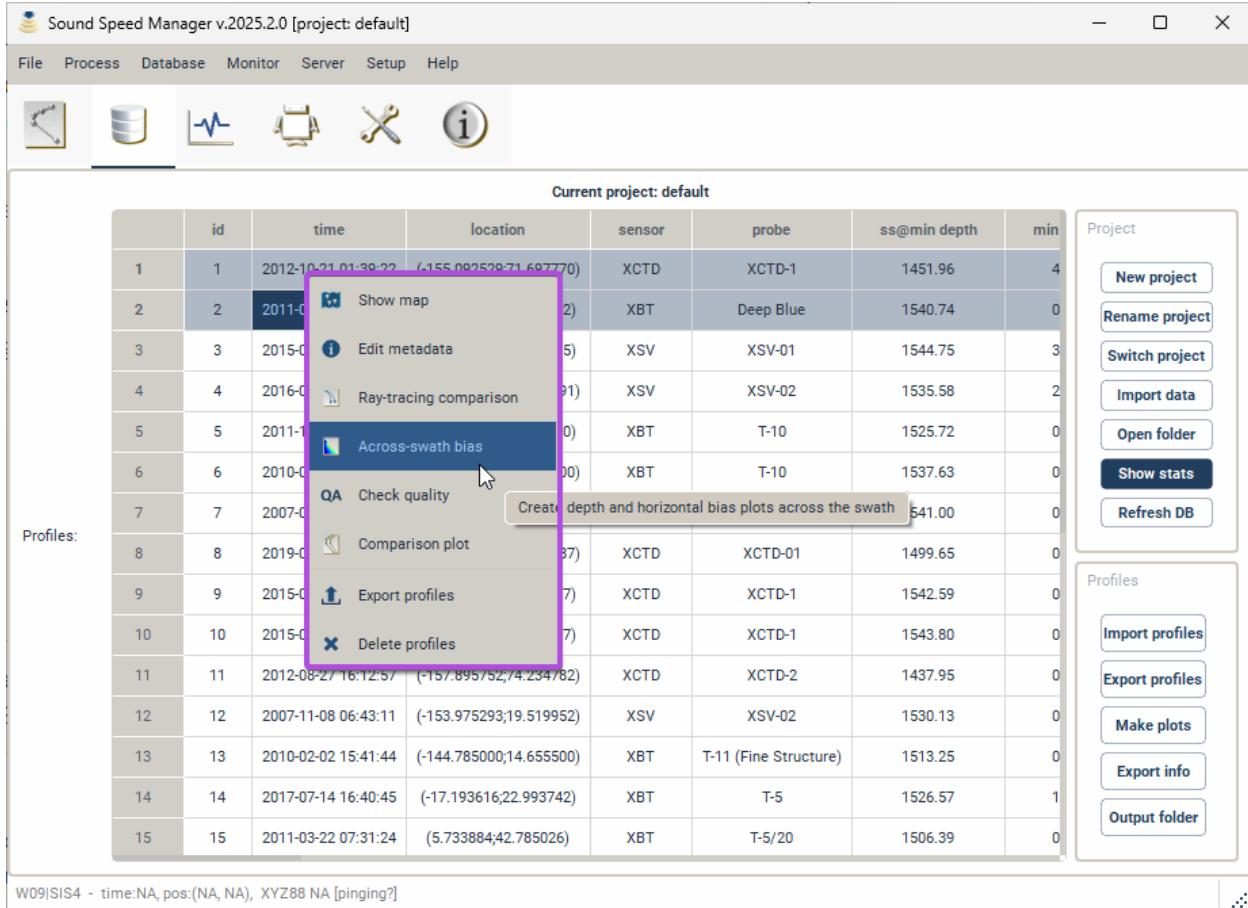

Fig. 2.48: The pair-selection context menu provides functionalities like ray-tracing comparison (Fig. 2.49) and bias plots (Fig. 2.50).
- Pair-profile selection (Fig. 2.48).